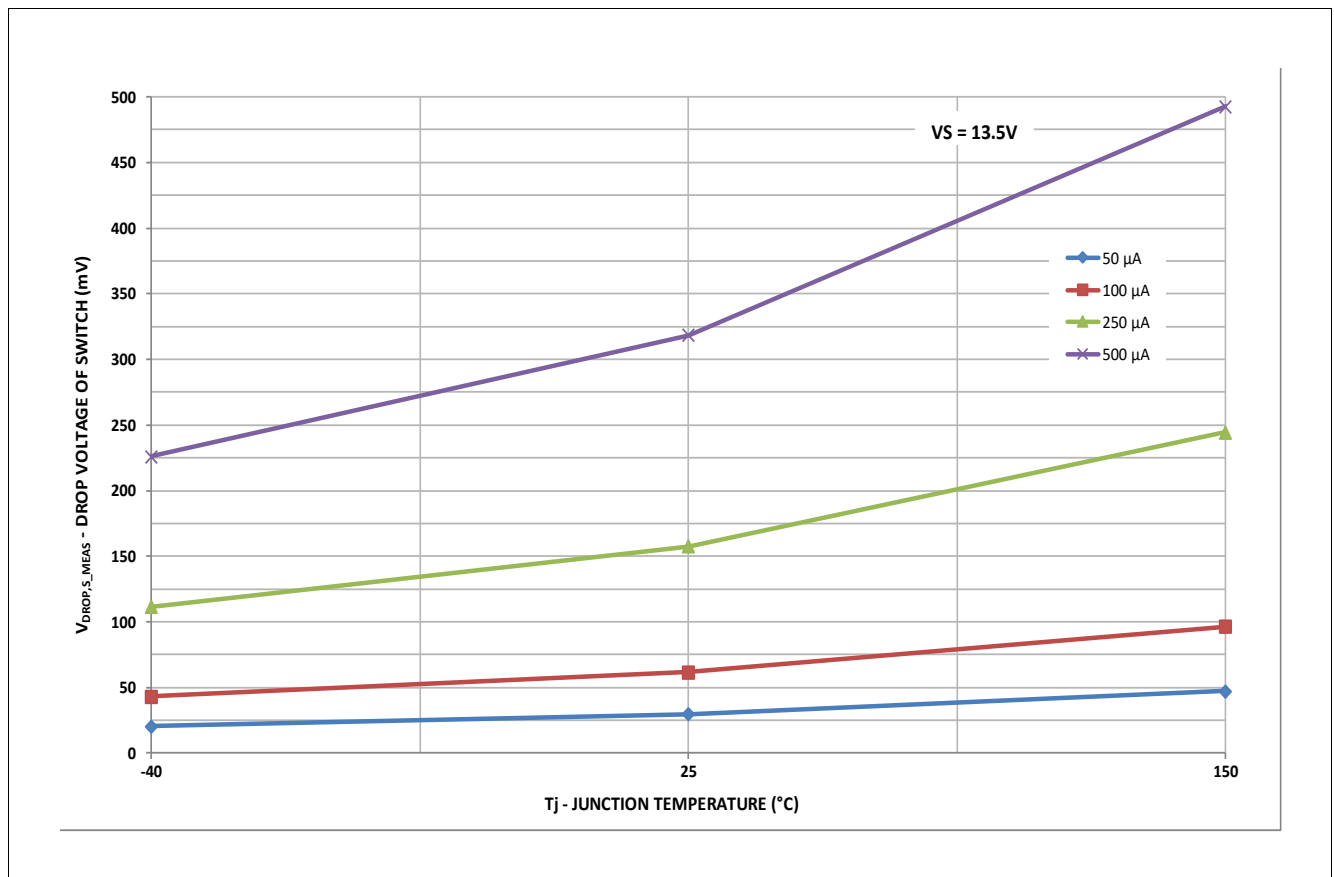

Figure 13 Typical Drop Voltage Characteristics of switch S\_MEAS (between WK/VSENSE & FO/GPIO)
*Note: There is a diode in series to the switch S\_MEAS (not shown in the **Figure 46**), which influences the temperature behavior of the switch. See also **Figure 13**.*